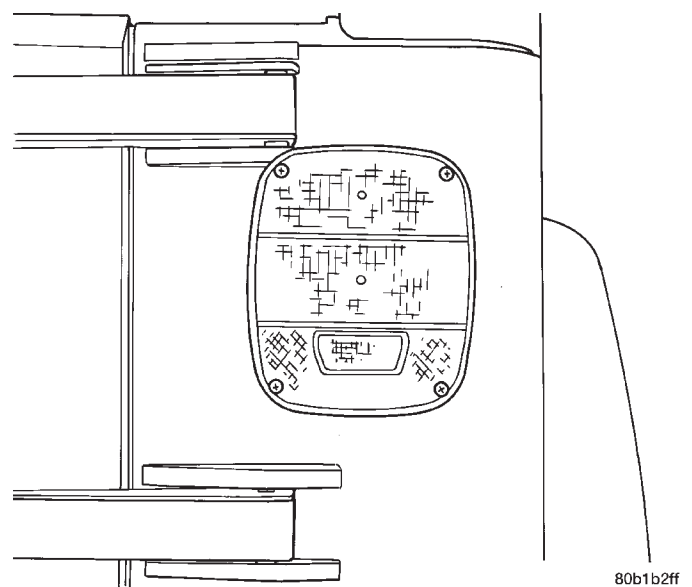
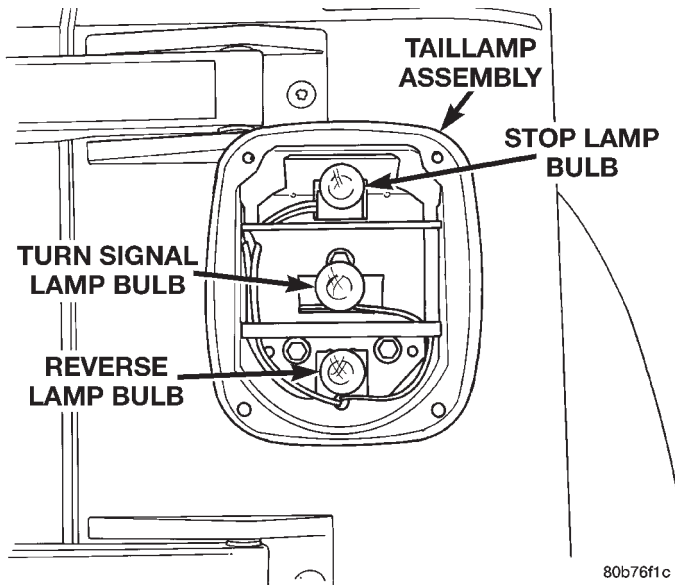

Fig. 8 Tail Lamp Lens
Fig. 9 Tail Lamp Bulbs
- (1) Remove the tail lamp lens retaining screws (Fig. 8).
- (2) Separate the tail lamp lens from the tail lamp housing.
- (3) Remove the tail lamp bulb from the bulb socket (Fig. 9).